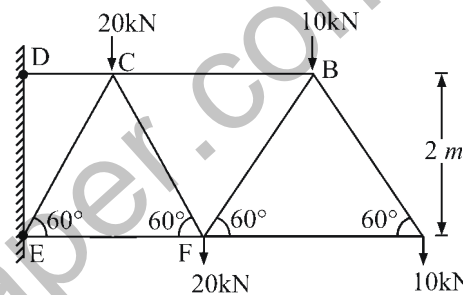

Figure 2
3. Analyse the plane truss loaded as shown in figure 2.